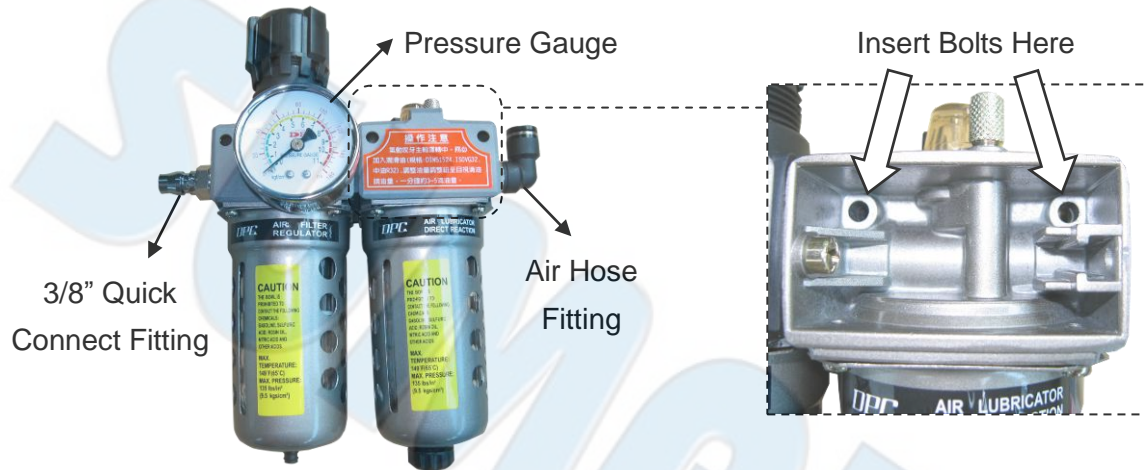

Figure 7-7
- (1) Attach pressure gauge, 3/8" quick connect and air hose fitting (see Figure 7-7).
- (2) Remove front cover of air unit body by lifting tab at top of cover and insert the two mounting bolts as Figure 7-7.